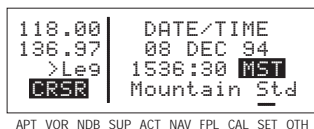

Figure 3-163
- Turn on the cursor and move it to the time zone field (figure 3-163).